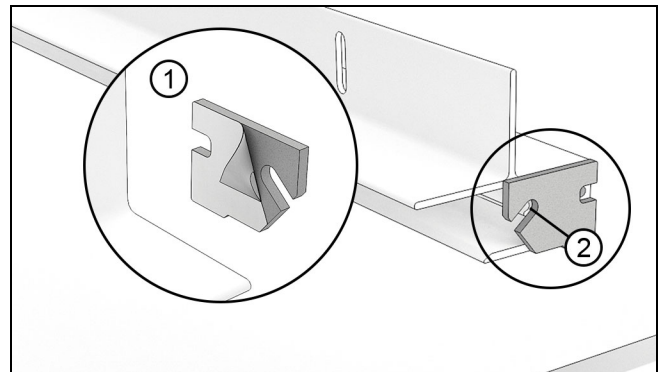

Figure 51
10. Remove the paper backing from the interlock gasket and apply it to the sill end of the interlock as shown. See Figure 51.